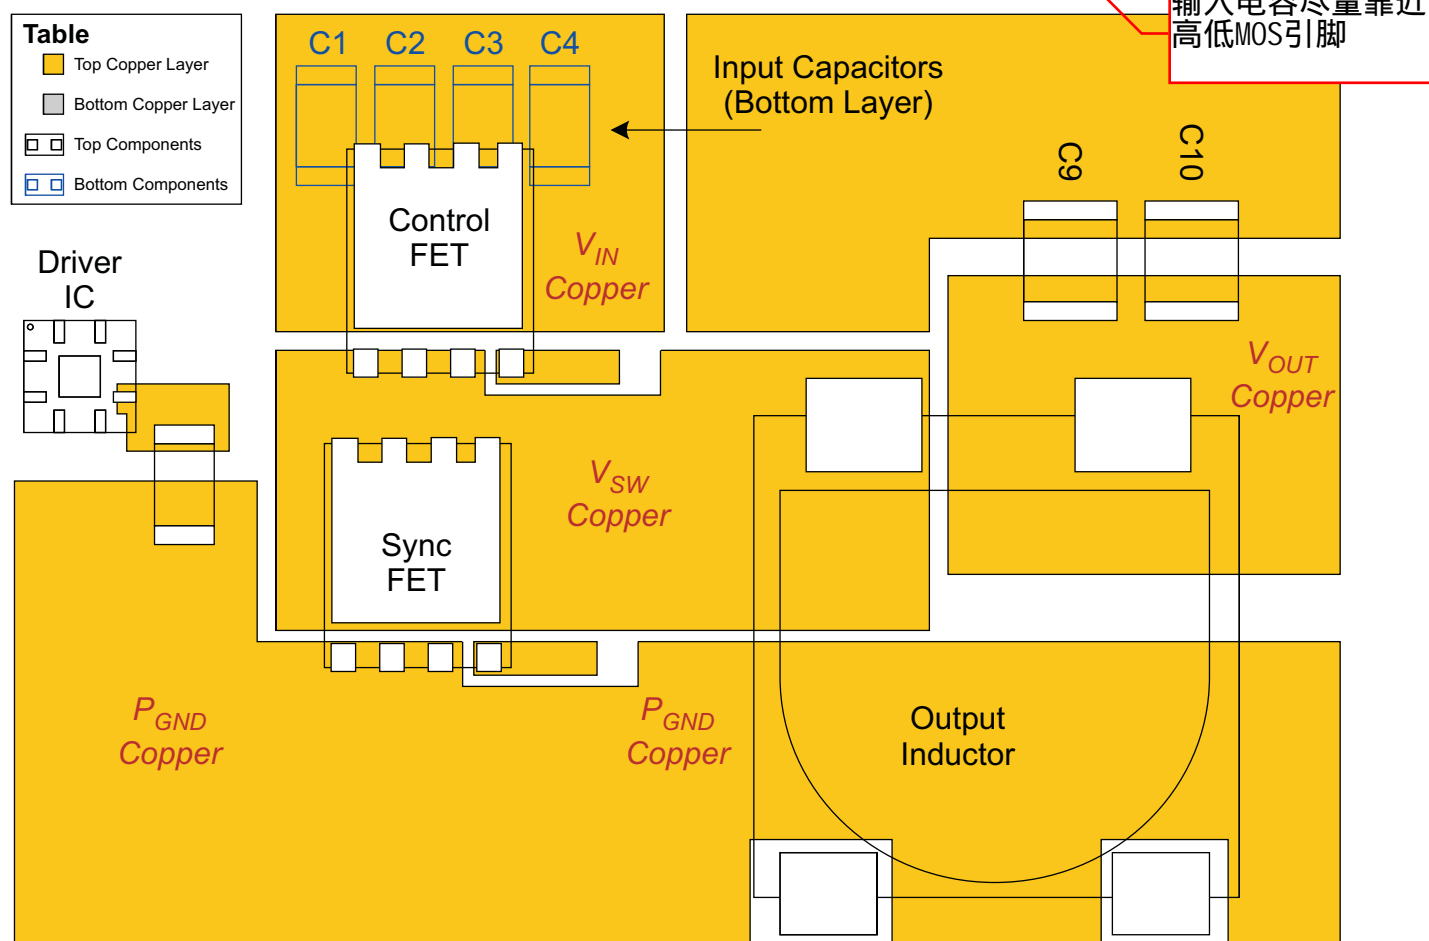
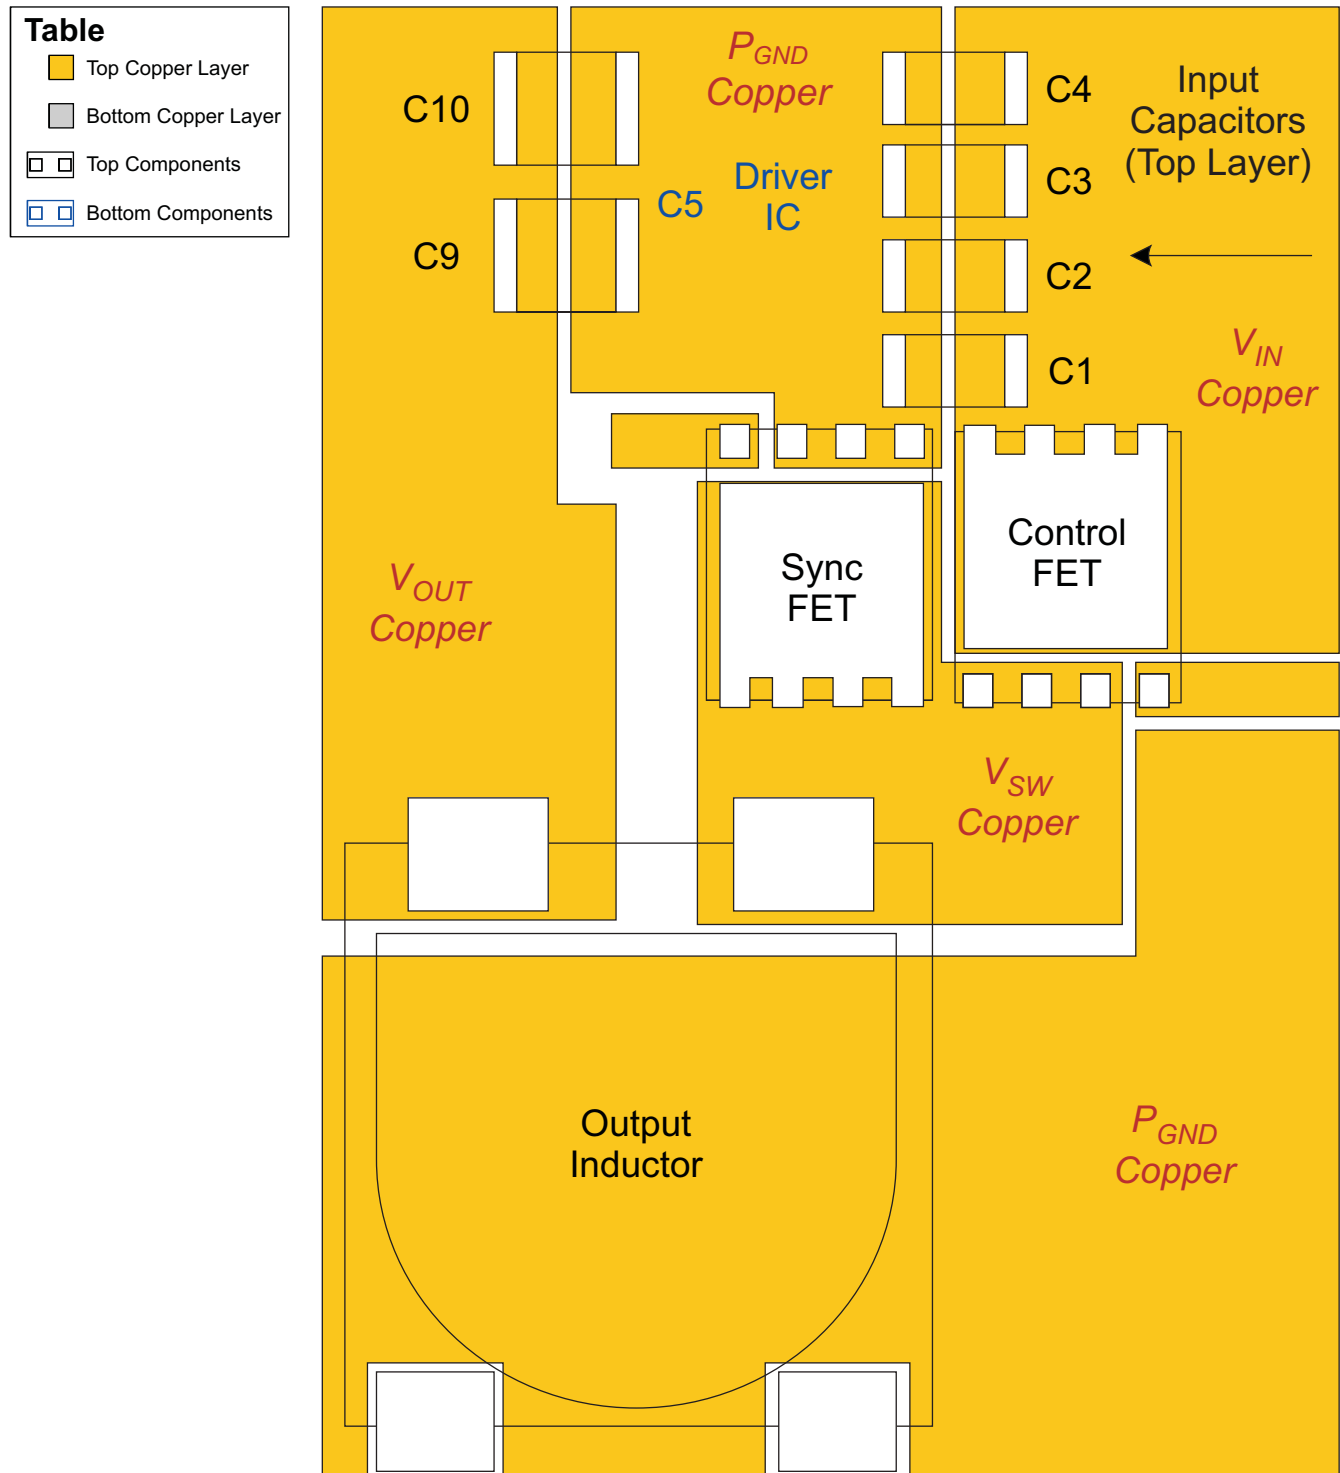
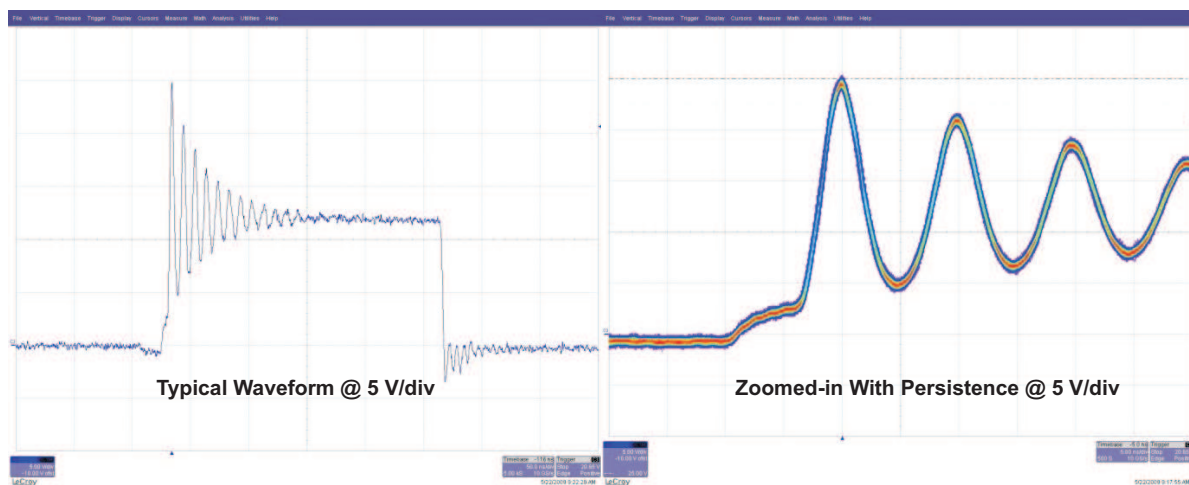
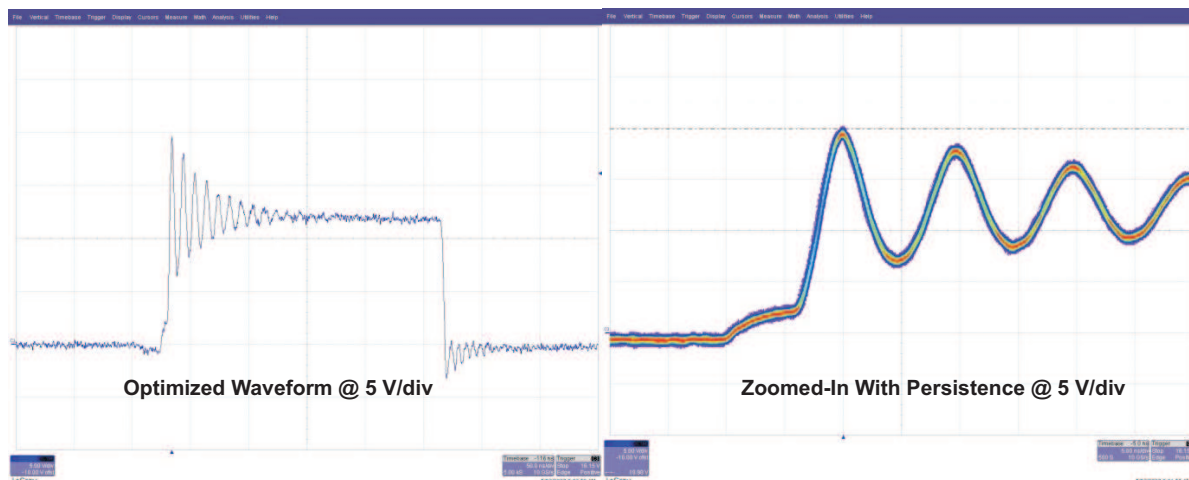

Figure 2. Typical Placement and PCB Layout of the Power Stage Components
Figure 3. Optimized Placement and PCB Layout of Power Stage Components
Figure 4. Switch Node (VSW) Voltage Ringing on Typical Layout
Figure 5. Switch Node (VSW) Voltage Ringing on Optimized Layout
A traditional placement of the Power Stage components is shown in Figure 2. Typically, one of these two node lengths is compromised. This results in a higher parasitic inductance between the power MOSFETs and the input capacitors which may yield higher than expected voltage ringing on the switch node. An optimized placement of the Power Stage components is shown in Figure 3. Both node lengths have been minimized which in turn minimizes the parasitic inductances.
The most important difference between Figure 2 and Figure 3 is the distance between the input capacitors and the power MOSFETs. In Figure 3, the Sync FET has been rotated 180° and placed to the left of the Control FET. The input capacitors have been moved to the top layer and placed next to the Drain pins of
Figure 4 shows the ringing found on the switch node of the PCB layout example depicted in Figure 2. In this example, the amplitude of the ringing reaches 25 V. If the power MOSFETs used in this example were rated for 25 V (BV_{DSS}), then the amplitude of the voltage ringing yields no design margin as outlined in item 1 in the Background section of this document. Figure 5 shows the ringing found on the switch node of the PCB layout example depicted in Figure 3. In this example, the amplitude of the ringing reaches 20 V. By simply optimizing the placement of the power MOSFETs and input capacitors, the voltage ringing amplitude can be reduced by 5 V. If this design used 25-V rated power MOSFETs, the amplitude of the voltage ringing waveform meets the typical margin requirements.